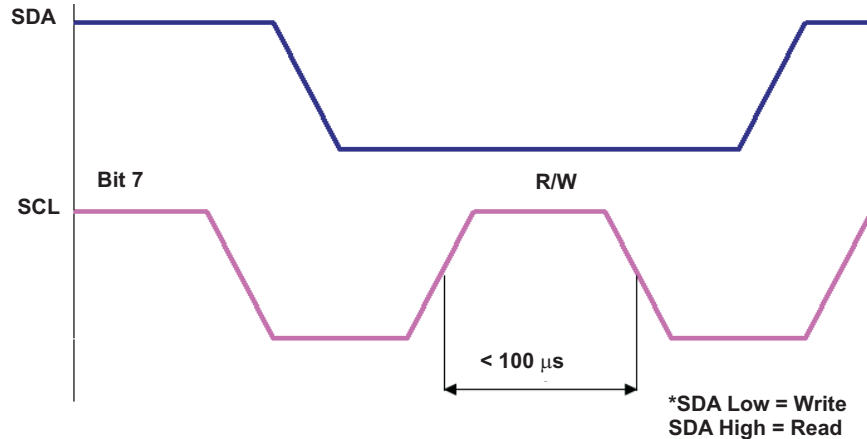

Figure 7. Read/Write Bit Requirements
- Read/write bit of slave address command (Figure 7): SCL must fall within 100 μ s of SCL rising.